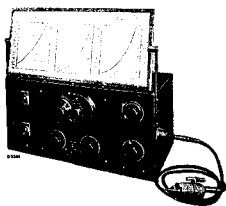

Fig. 3
1. Service oscillator G.M. 2880 (fig. 3).